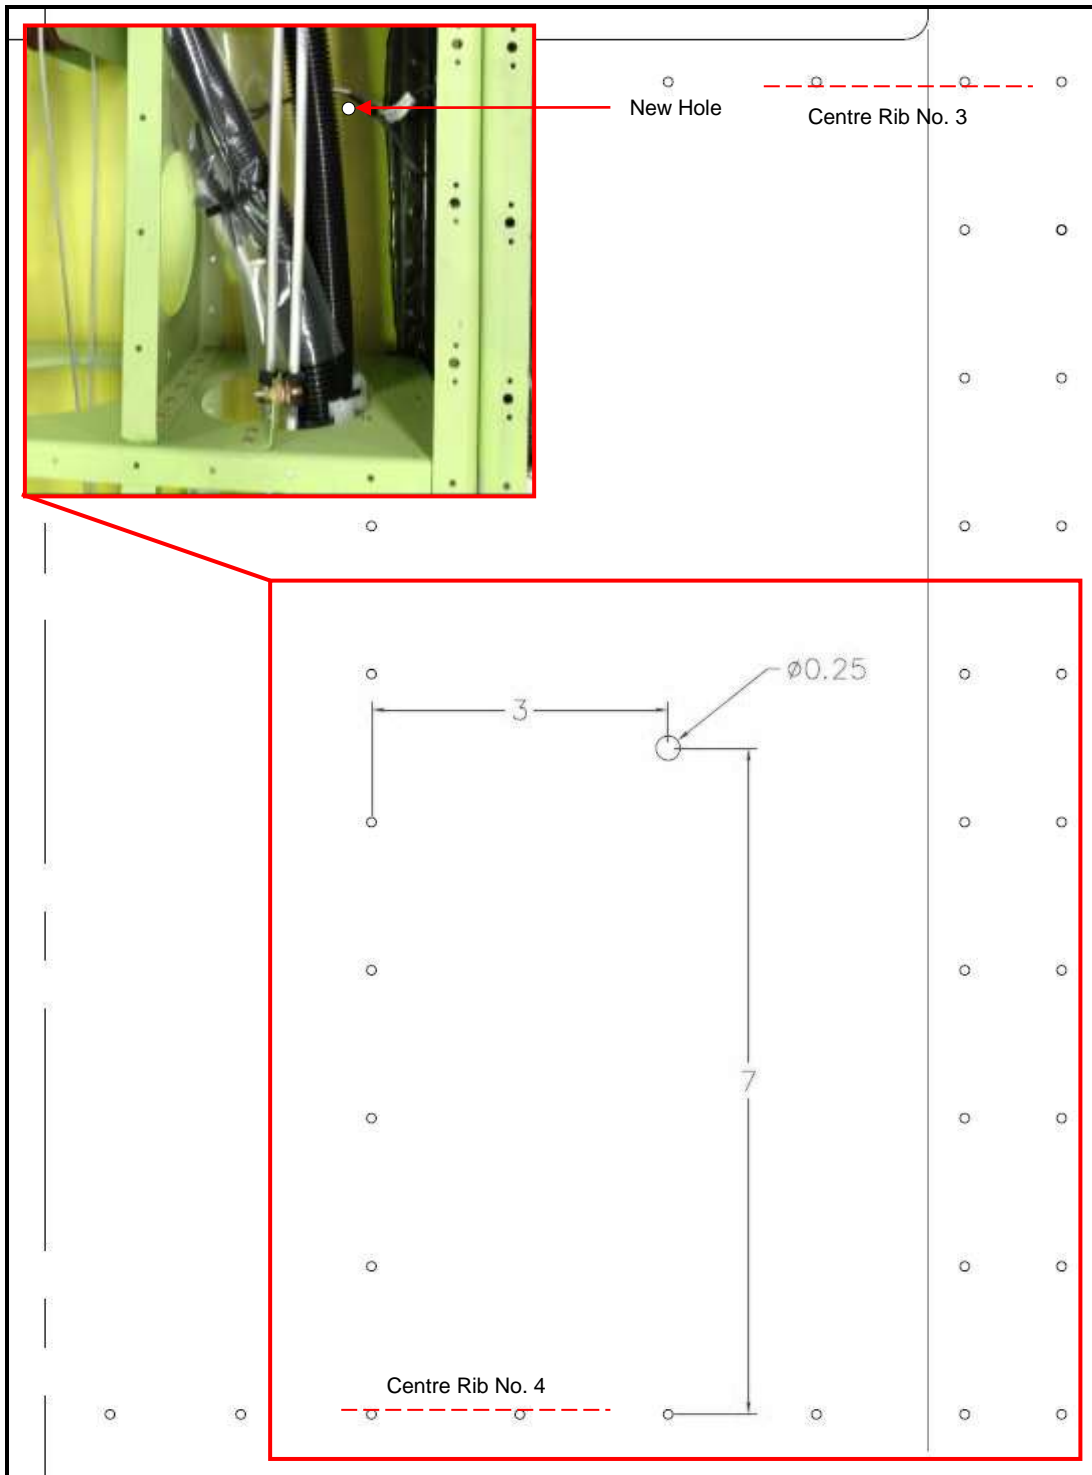

Figure 6: Hole 4
11. Drill ¼ in. hole through bottom skin located inboard of sump tank, between centre rib no. 4 (GA8-532023-125) and centre rib no. 3 assembly (GA8-532013-055), Figure 6.